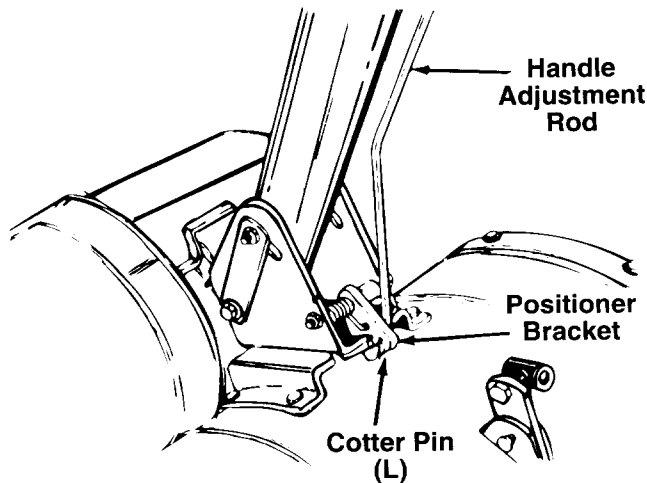

FIGURE 13.
21. Insert the hooked end of handle adjustment rod into the positioner bracket as shown in figure 13. Secure with cotter pin (L). Secure by bending ends of pin in opposite directions.